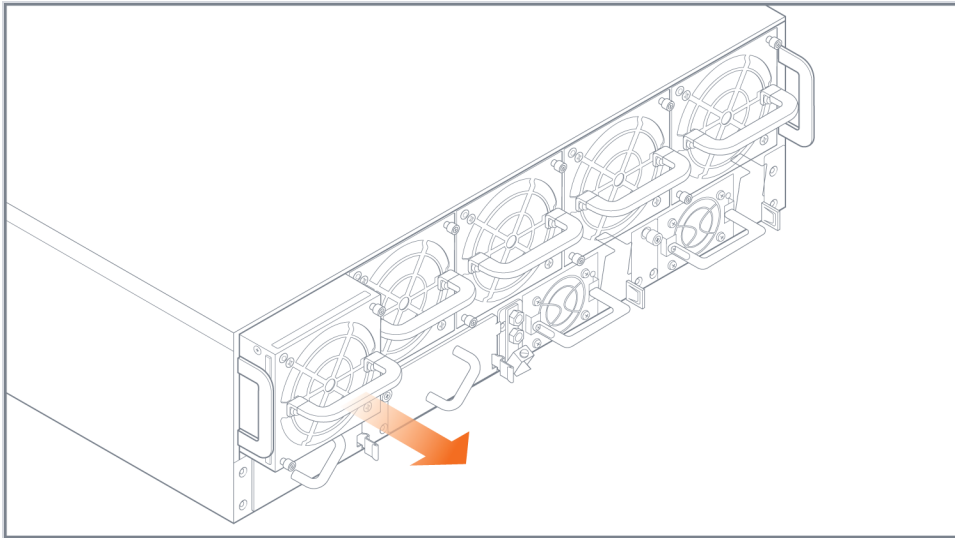

Figure 8: Fan Module Removal
3. Pull the failed fan module out of the slot and set it aside. Refer to Figure 8: Fan Module Removal on page 78.